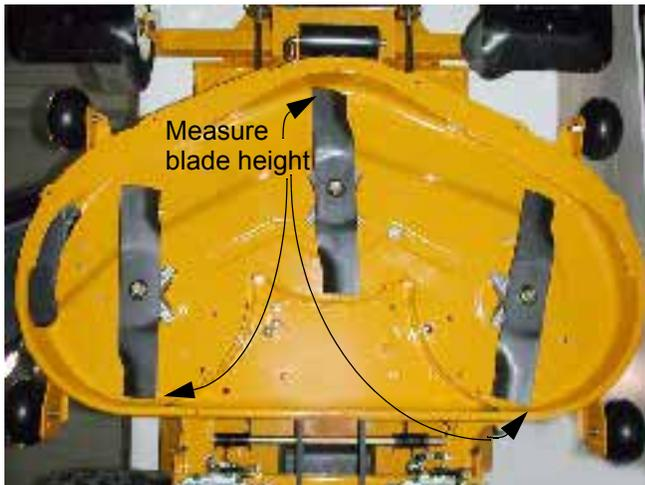

Figure 1.10
- 1.10. To do fore and aft **pitch adjustment**, align the blades front to back. See Figure 1.10.